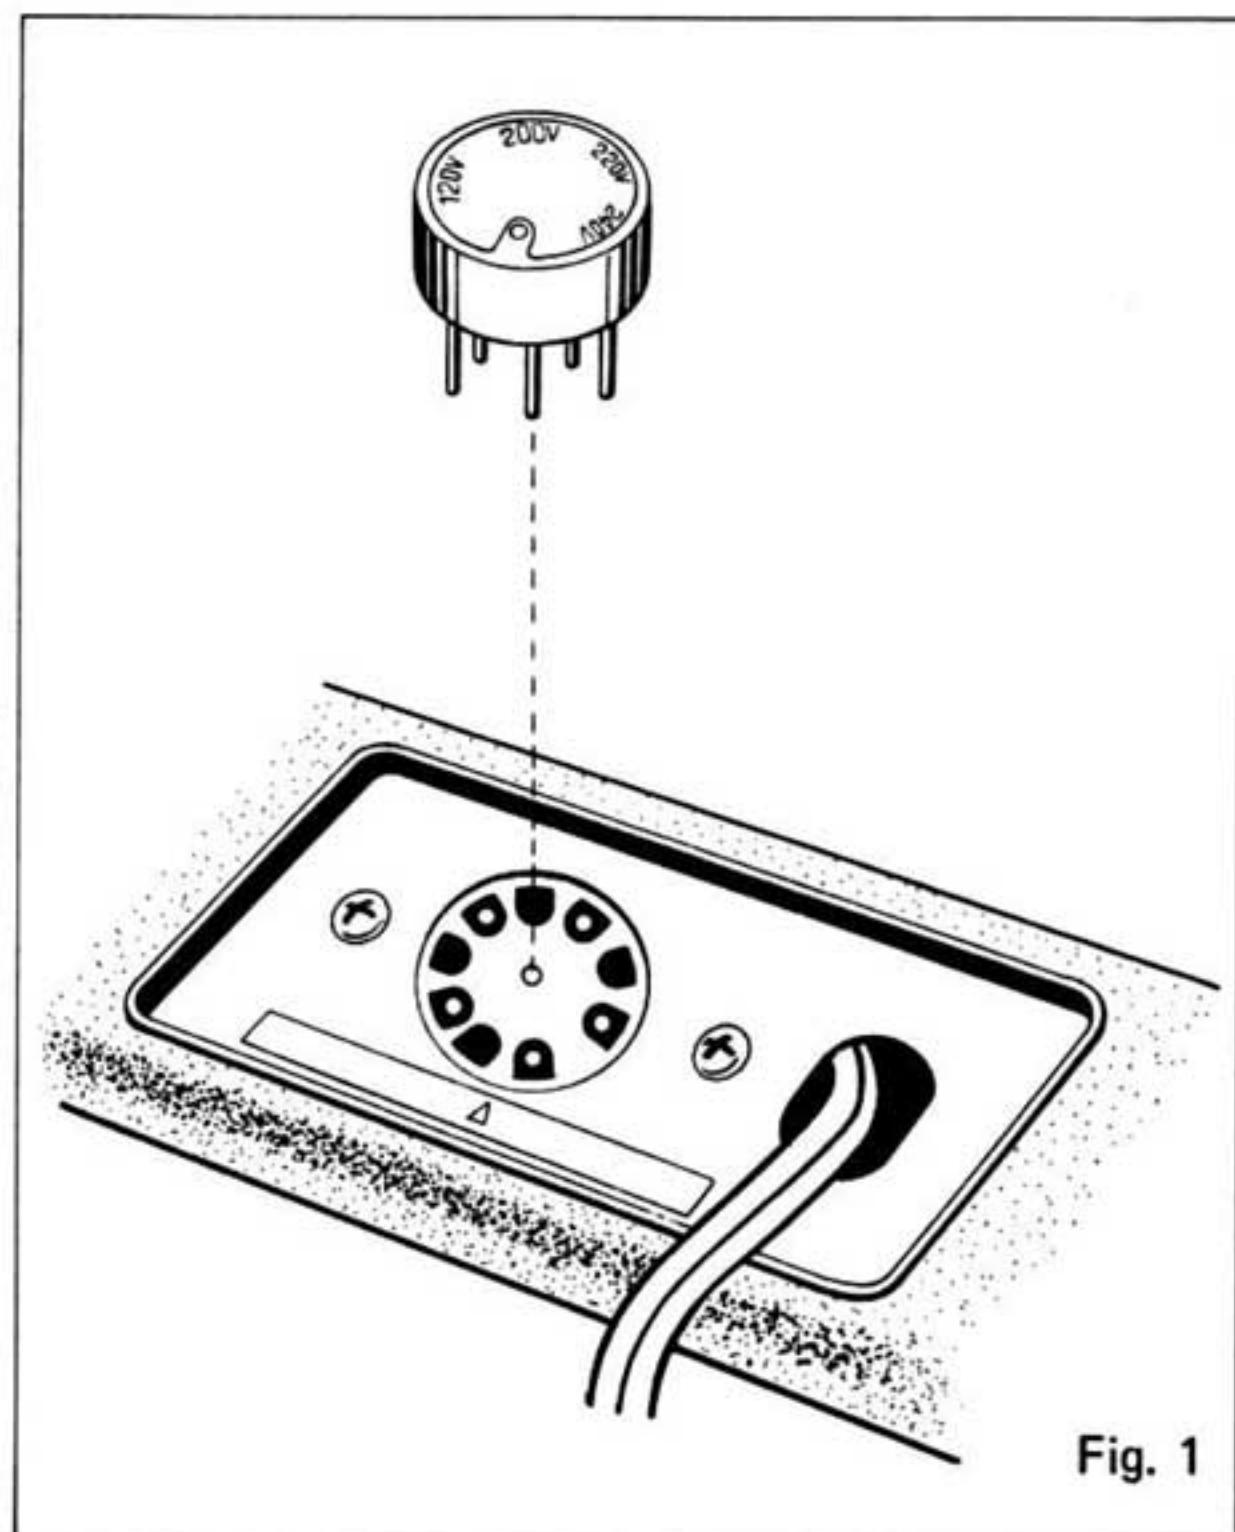

Fig. 1
4. Before operating the unit for the first time in a new area, it is absolutely necessary to make sure that the setting of the voltage select plug (located on the back of the unit) corresponds as closely as possible to your local voltage. To reset the voltage, pull out the plug and re-plug it into the socket which corresponds to your local voltage (Fig. 1). (TP 1000)